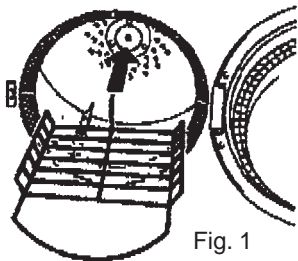

Fig. 1
1. Remove the fuse cover (A) and fuse (B) **Fig. 1**.
- 1, Locate the centre rib wire into the hole in the plastic hub at the back of the drum. (Fig. 1)